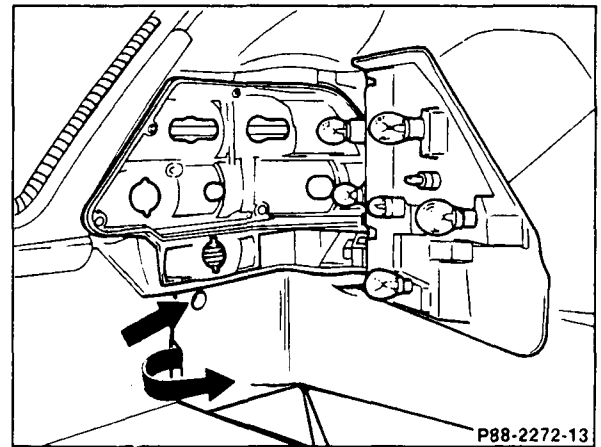

Figure 11
1. Open tail lamp cover and remove rivet plastic (arrow, Figure 11).